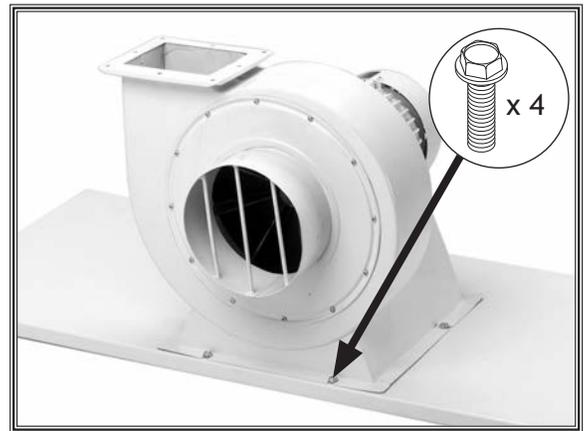

Figure 7. Installing motor to base.
3. Turn the base over, align the motor and impeller with the mounting holes, then secure the assembly with (4) $\frac{5}{16}$ "-8 x $\frac{1}{2}$ " flange bolts, as shown in **Figure 7**. The intake portion should be near the edge.